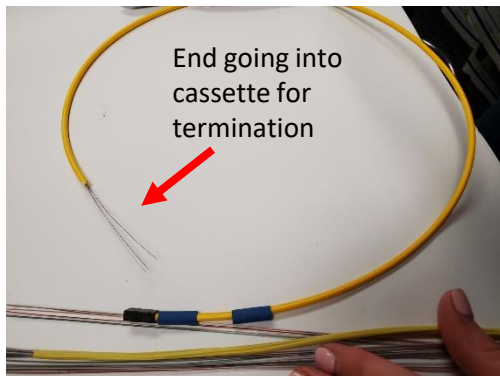

Figure 7
6.3 Insert each ribbon into the correct furcation tubing starting with 1 into the blue labeled tubing. See **Fig 7**. Keep in mind the installation will be similar for all cassette types.